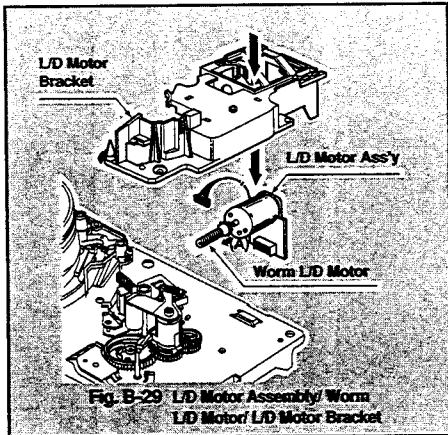

Fig. B-29 L/D Motor Assembly/ Worm L/D Motor/ L/D Motor Bracket
29. L/D Motor Assembly & Worm L/D Motor & L/D Motor Bracket (Fig. B-29)